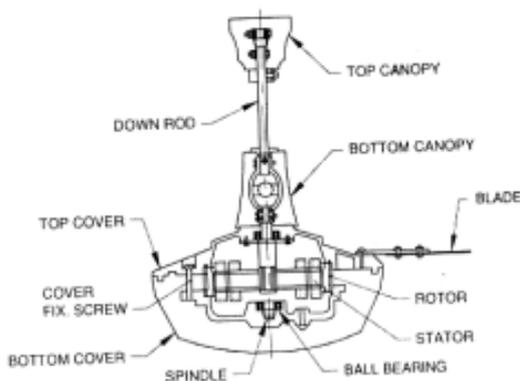

Fig.13.1 - Internal Parts of ceiling fan
**13.3 Construction of Ceiling fan:** The parts of the ceiling fan are shown in Fig.13.1 and 13.2. The key components are the following;